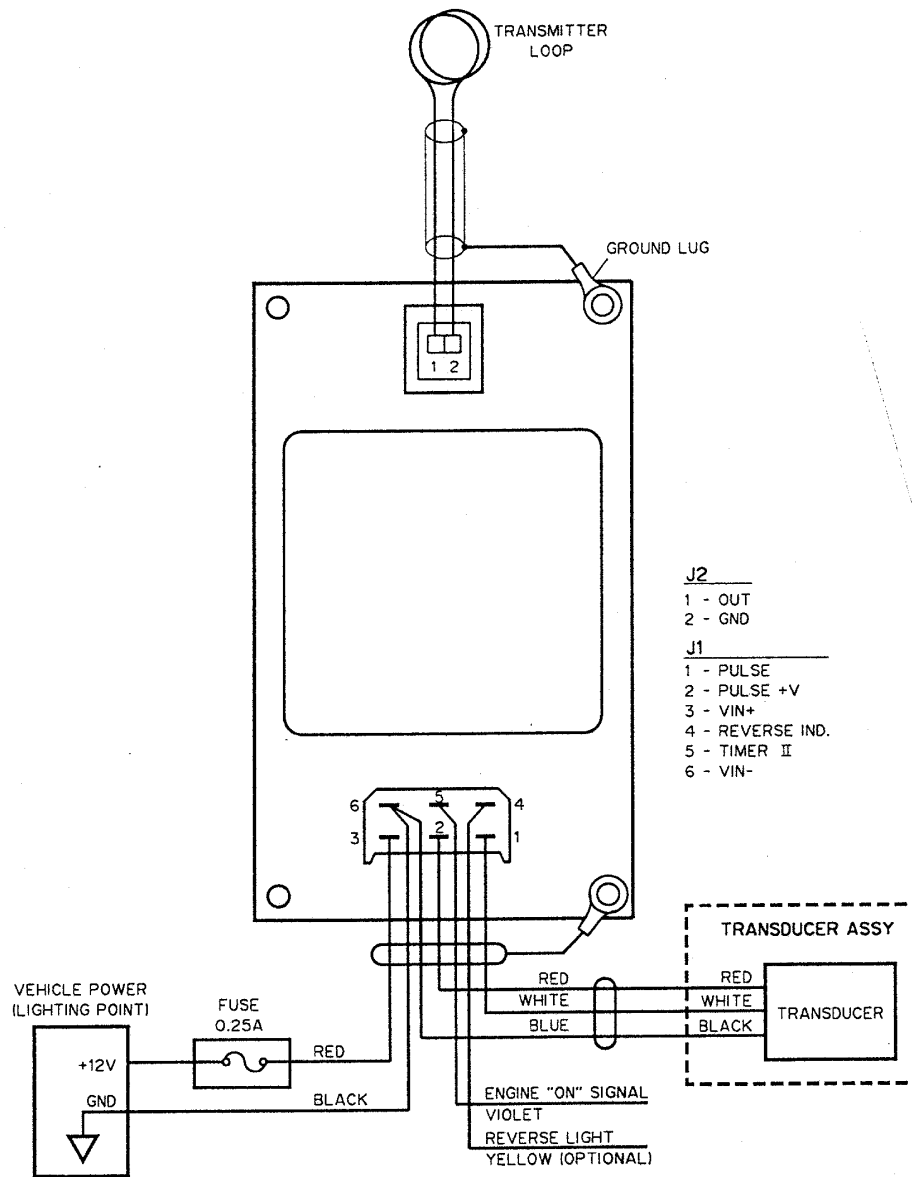

Figure 9: VIU Wiring Diagram
Figure 9 on page 25 is a VIU sub-system wiring diagram.
This wiring harness typically consists of three wires (see *Figure 9* on page 25) running from the engine compartment or transmission gear box to the trunk. The harness should run along the vehicle side on which the fuel tank inlet is located. Whenever feasible, use existing conduit runs; otherwise, attach the harness to chassis supports.
5. Transducer connections are made to the 6-pin controller connector of the VIU -- see *Figure 9* on *page 25*.
4. Attach the harness connector to the 6-pin connector of the VIU. The vehicle battery is connected via the fuse to position 3 (positive line) and 6 (ground) of the 6-pin VIU connector (*Figure 9 on page 25*).